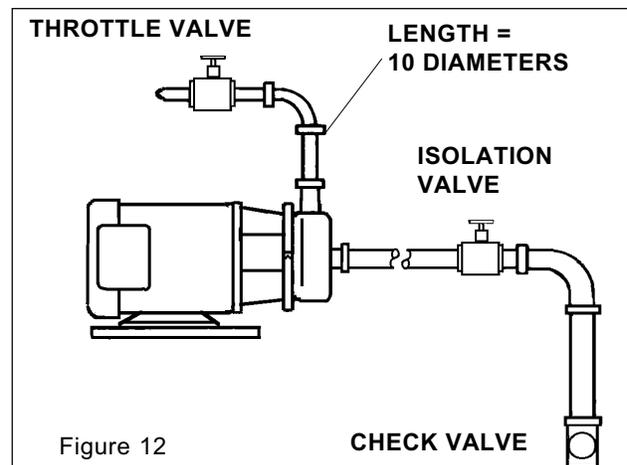

Figure 12
Install shutoff valves to isolate pump from supply and discharge lines to allow pump service without draining system. (Figure 12)
If pump is installed above supply liquid level, install a check valve system to keep casing flooded for priming. (Figure 12)
A throttling valve may be required to control pump flow rate to prevent motor overload; if a throttling valve is used always install in discharge piping, never in supply piping and at least 10 diameters from pump outlet. (Figure 12)
5. Close vent valves; then outside supply line. Use a type of check valve system to keep supply line and pump casing flooded with liquid. Otherwise the pump must be primed before each operation. (See Figure 12)